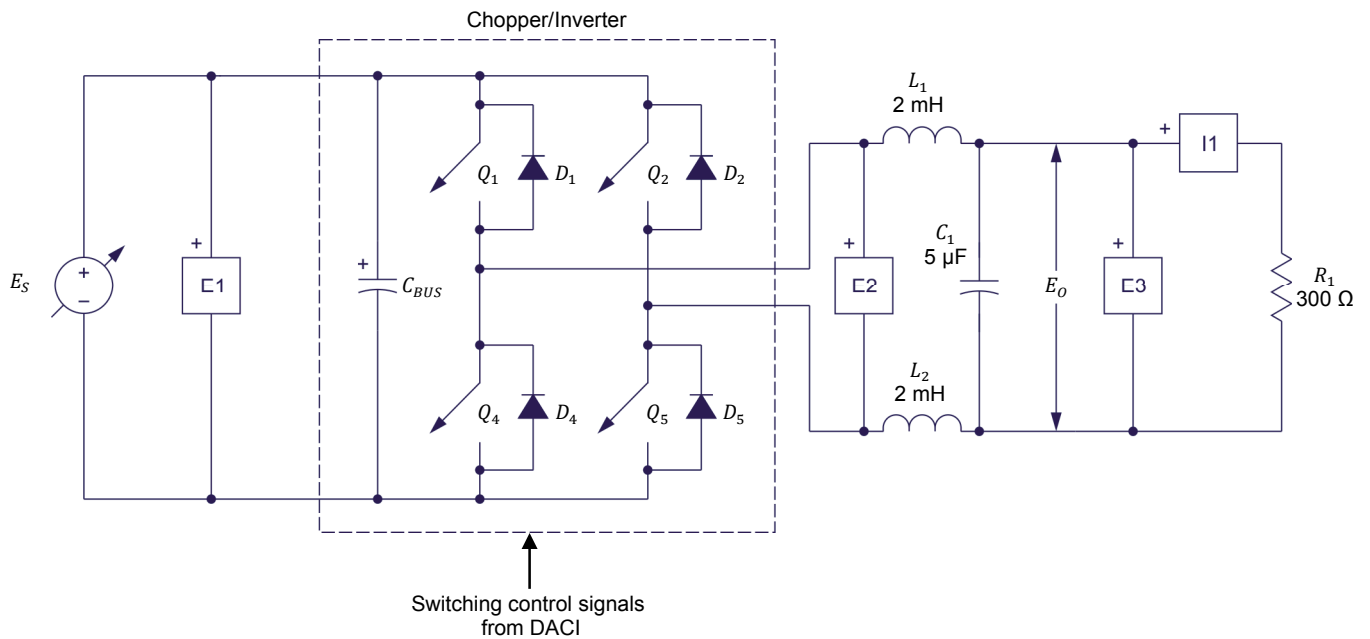

Figure 21. Four-quadrant chopper circuit.
6. Set up the circuit shown in Figure 21. Use the two 2 mH inductors and the 5 μ F capacitor of the *Filtering Inductors/Capacitors* module to implement L_1 , L_2 , and C_1 . Make the necessary connections and switch settings on the *Resistive Load* in order to obtain the resistance value required.